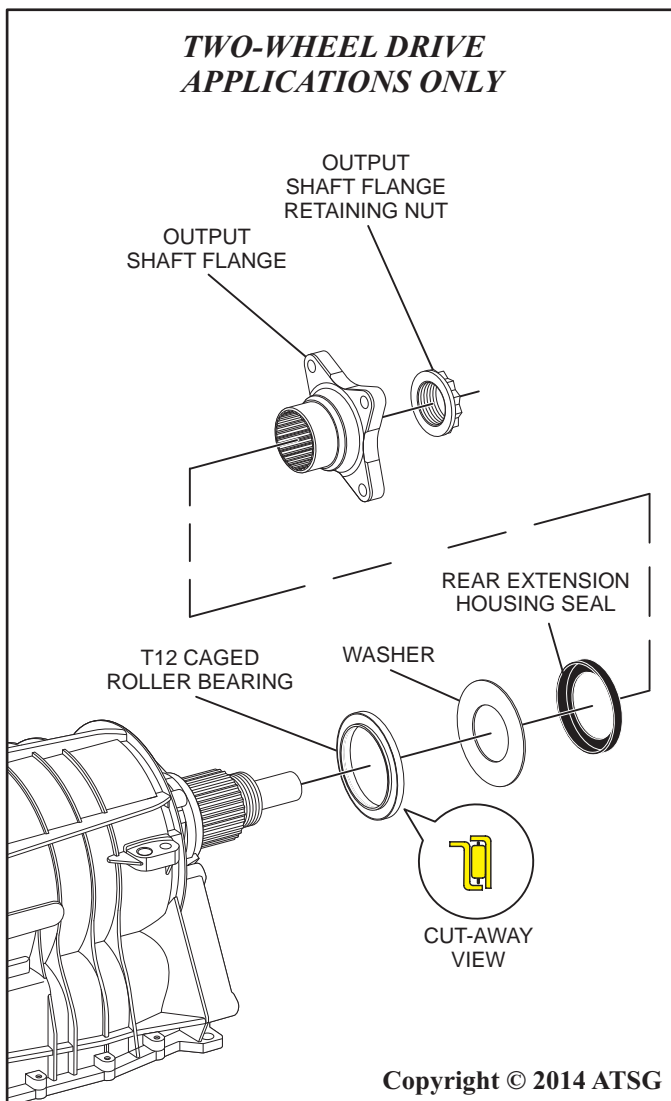

Figure 146
Install the T12 caged roller bearing, the washer, and the a new rear extension housing seal as shown in Figure 146.
37. Install the output shaft flange as shown in Figure 146 and loosely install the output shaft flange retaining nut.